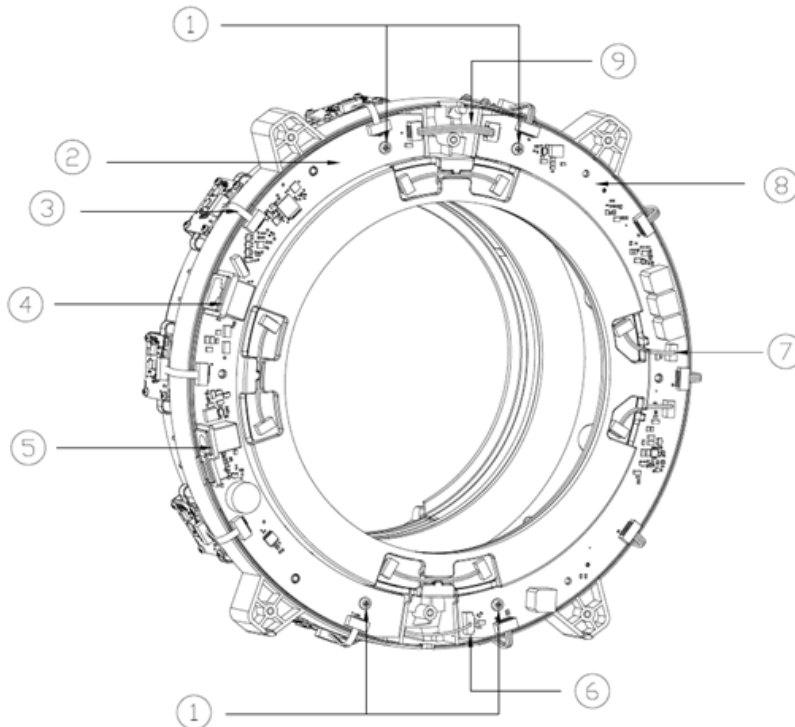

Figure 8-1
(8) Remove the Mainboard and the Switchboard
As shown in Figure 8-1, remove the 4 screws ①, remove the DuPont cable connection, and remove the mainboard ② (RVM100-MB) and the switchboard ⑧ (RVM100-SWB). The specification of the screw is the self-tapping screw, ST3*10mm.